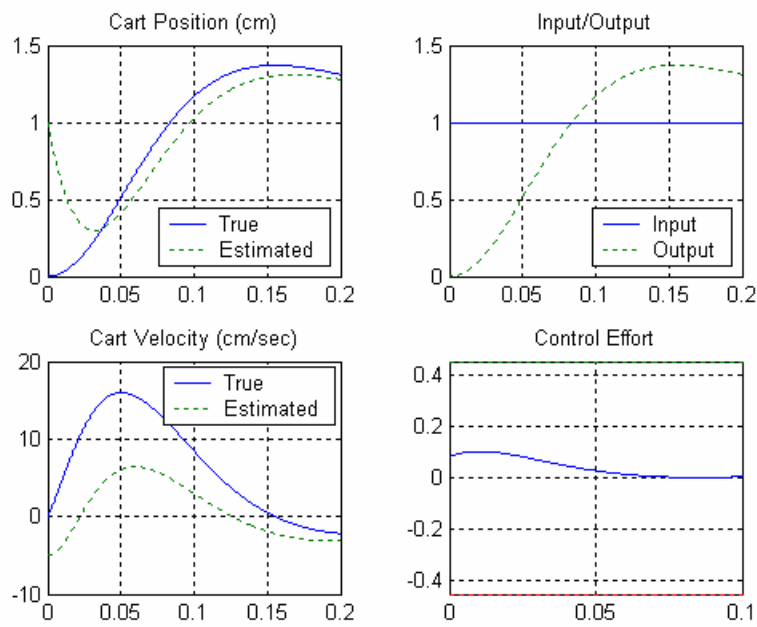

Figure 1. Results for Problem 3b.
b) If the observer poles are also at \mathbf{p} , you should get the response shown in Figure 1.